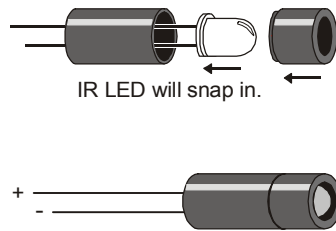

Figure 7-3
- ✓ Insert the infrared LED into the shield assembly as shown in Figure 7-3.